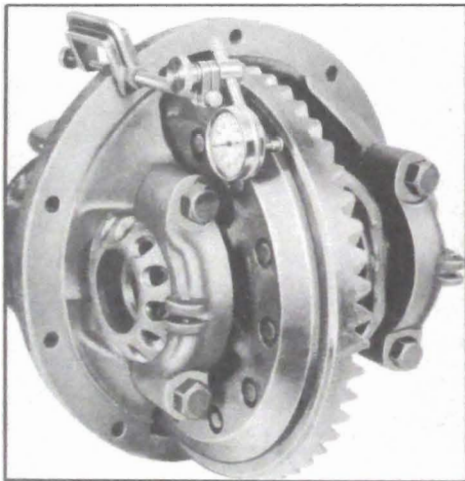

Figure 5-15A—Checking Run-out of Ring Gear
6. Mount ring gear and case in differential carrier with a dial indicator set to check run-out of ring gear as shown in figure 5-15A. If run-out exceeds .003", check for burrs, uneven bolting condition, or distorted case flange.
7. When run-out of gear is not over .003", install new rivets of correct part number which allow $\frac{5}{16}$ " of shank for heading. Install rivet in the one open hole from gear side and securely head it up cold, which requires a pressure of eight (8) tons. CAUTION: Excessive pressure may cause rivet to squeeze out between gear and case flange, thereby distorting these parts. Never heat rivets to facilitate heading because hot rivets shrink and become loose in holes during cooling, furthermore, the heads may crack off.
9. After all rivets are installed, recheck for run-out at back of gear. See figure 5-15A. Run-out must not exceed .003".